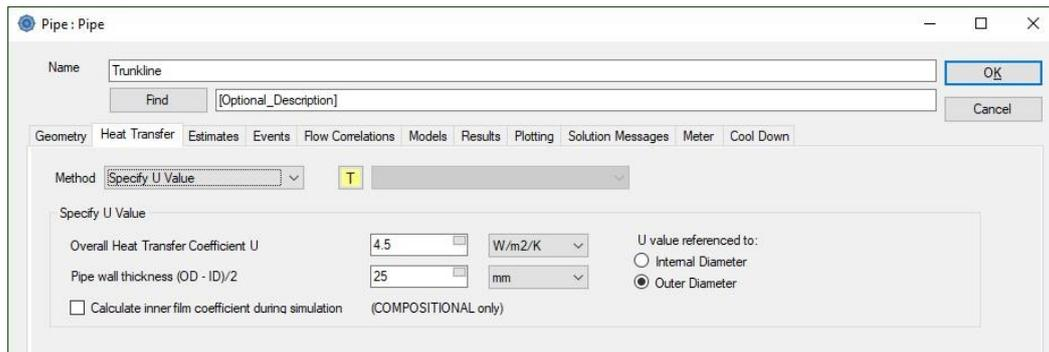

Figure 10: Heat transfer options.
- Figure 10. The U value is referenced to the pipe outer diameter, so does not include the pipe wall. So, the pipe wall thickness needs to be set, in this case 25 mm.